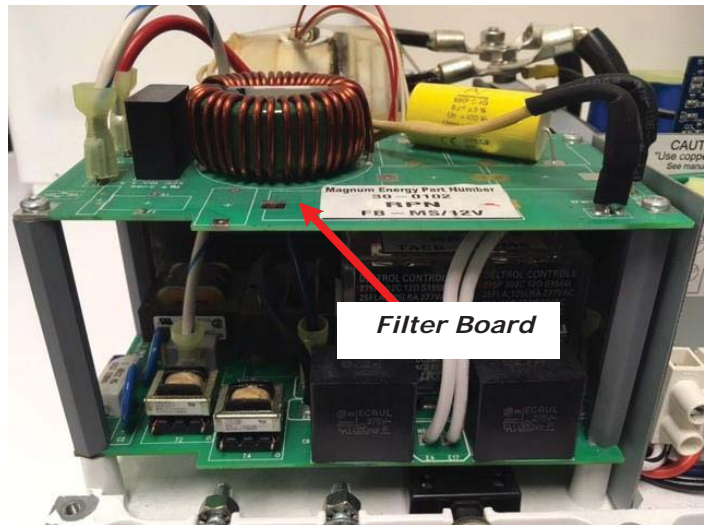

Figure 2, Locating the Filter Board
2. Locate the filter board (Figure 2).